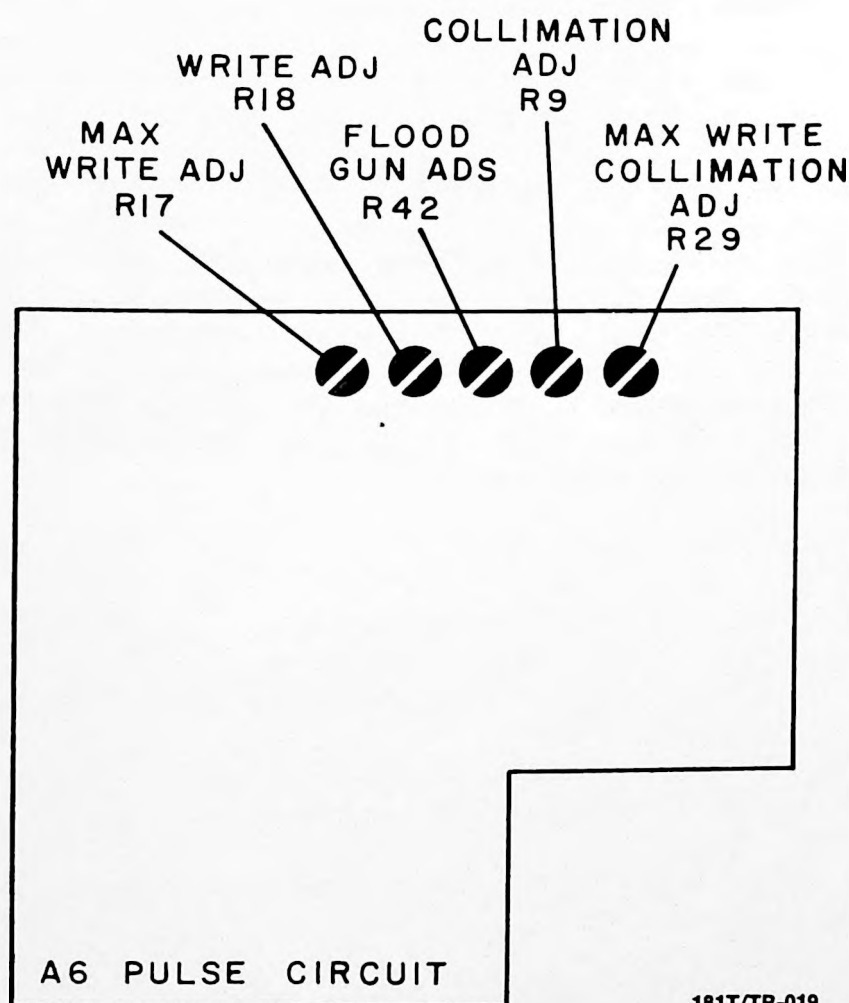

Figure 5-4. Pulse Board Adjustments
b. Press ERASE PUSHBUTTON. Display should resemble figure 5-5A. If display does not resemble figure 5-5A, but instead fills entire screen, omit steps c and d and proceed with step e. See figure 5-4 for location of adjustment.